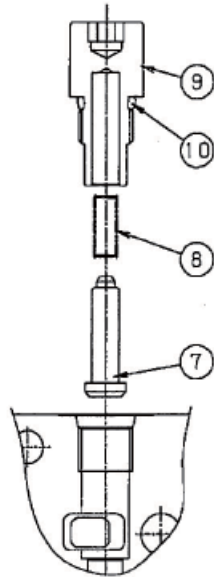

Figure 5. Check valve
- The numbers in figure 5 are the same as those in the P3 inlet & boom 2 block in the specifications and drawings.